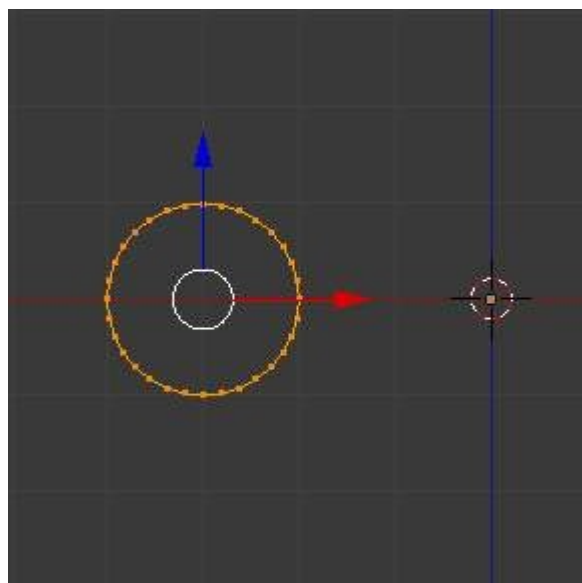

Fig. 8 - Circle placed at X -3,0,0
- Grab and move this circle to the left 3 Blender Units on the X Axis; you can use the shortcut **Ctrl** while grabbing with the mouse using the standard transform widgets (clicking on the red arrow shown with the object and grabbing while using shortcut **Ctrl** until the down left info in the 3D View marks **D. -3.0000 (3.0000) Global**), or press the shortcut **G-X** and typing **-3** and **Return**. You can use the Transform Panel (toggled with the shortcut **T** , and type **-3** and **Return** in the Location too. (See the Fig. 8 - Circle placed at X -3,0,0).